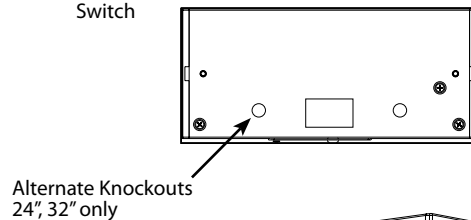

Fig: 2
- Alternate Knockouts for 24" or 32" only (Fig. 2 and 3).